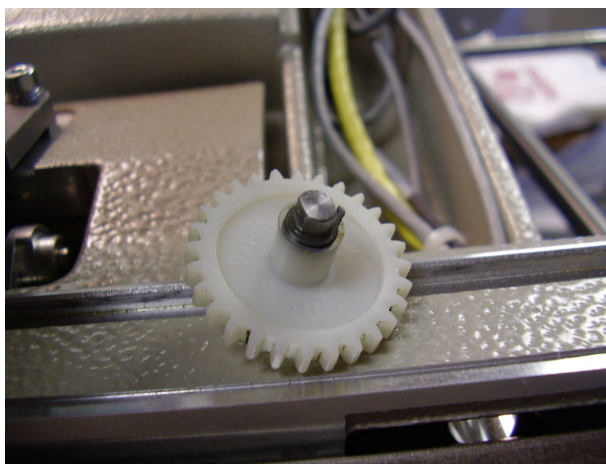

Figure 2
4. Unscrew the Feeder Drive Gear Shaft and gear assembly and carefully remove it from the machine. See **Figure 2**.